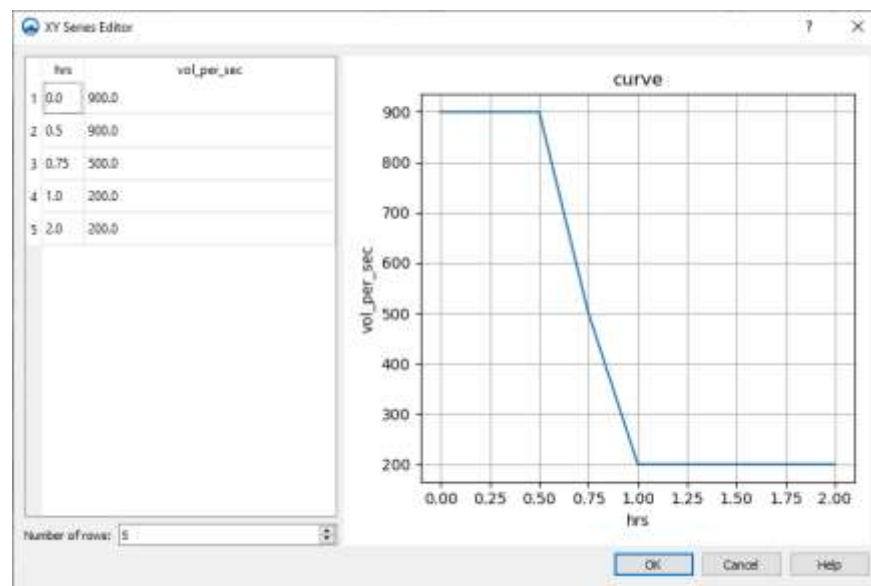

Figure 3 XY Series Editor
4. Click on the **XY Series** button under *Time Series q* to review the hydrograph that will represent the inflow. This will open the *XY Series Editor* as shown in Figure 3.